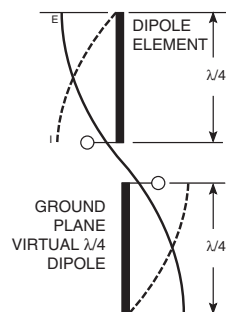

Figure 22: Dipole Antenna
4. In many antenna designs, particularly $\frac{1}{4}$ -wave whips, the ground plane acts as a counterpoise, forming, in essence, a $\frac{1}{2}$ -wave dipole (Figure 22). For this reason, adequate ground plane area is essential. The ground plane can be a metal case or ground-fill areas on a circuit board. Ideally, it should have a surface area less than or equal to the overall length of the $\frac{1}{4}$ -wave radiating element. This is often not practical due to size and configuration constraints. In these instances, a designer must make the best use of the area available to create as much ground